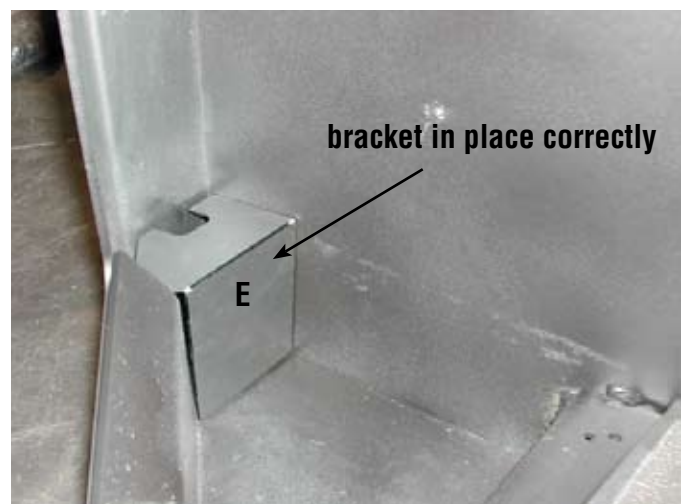

Figure 40
2. One bracket goes into the left corner and the other into the right corner of the firebox. Rotate the brackets so they are placed as shown in Figure 40. The bracket fits between the back of the firebox and the air wash at the front of the stove.